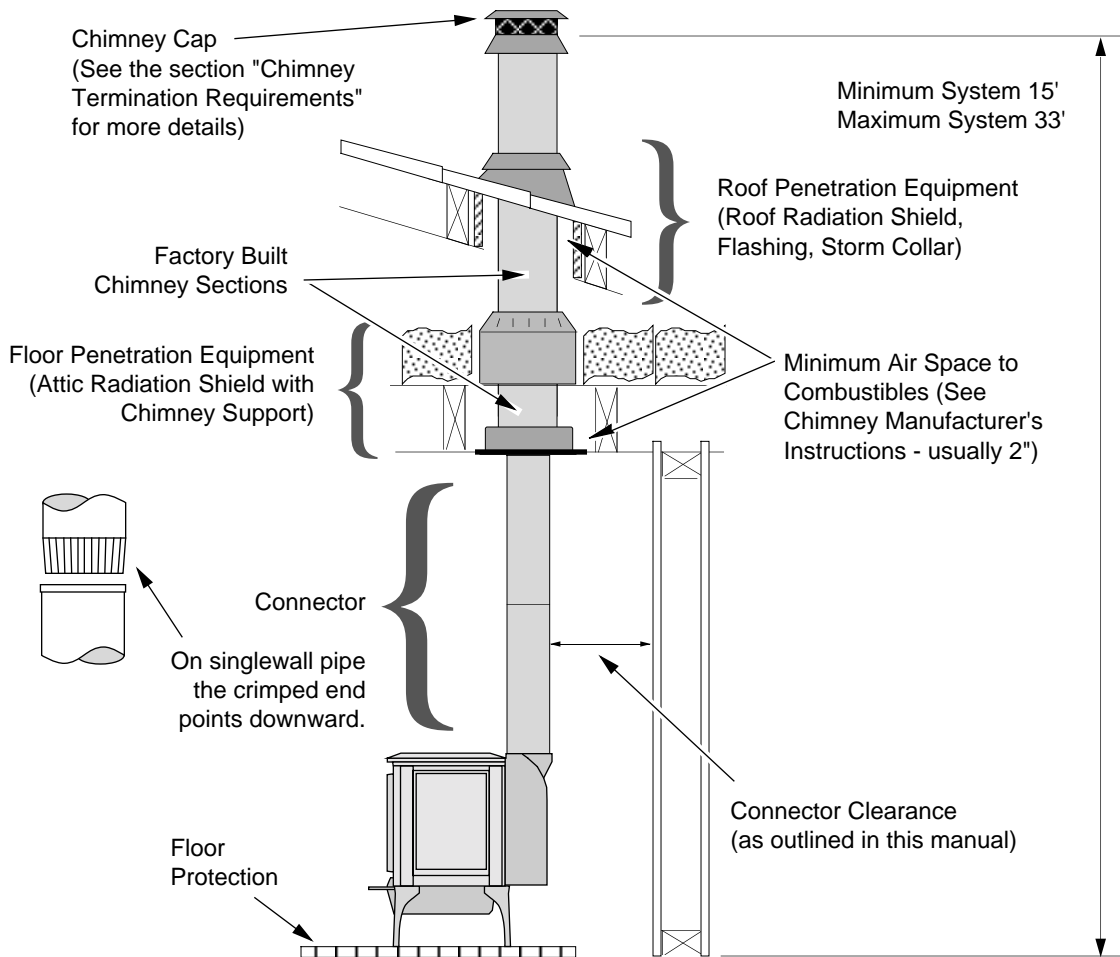
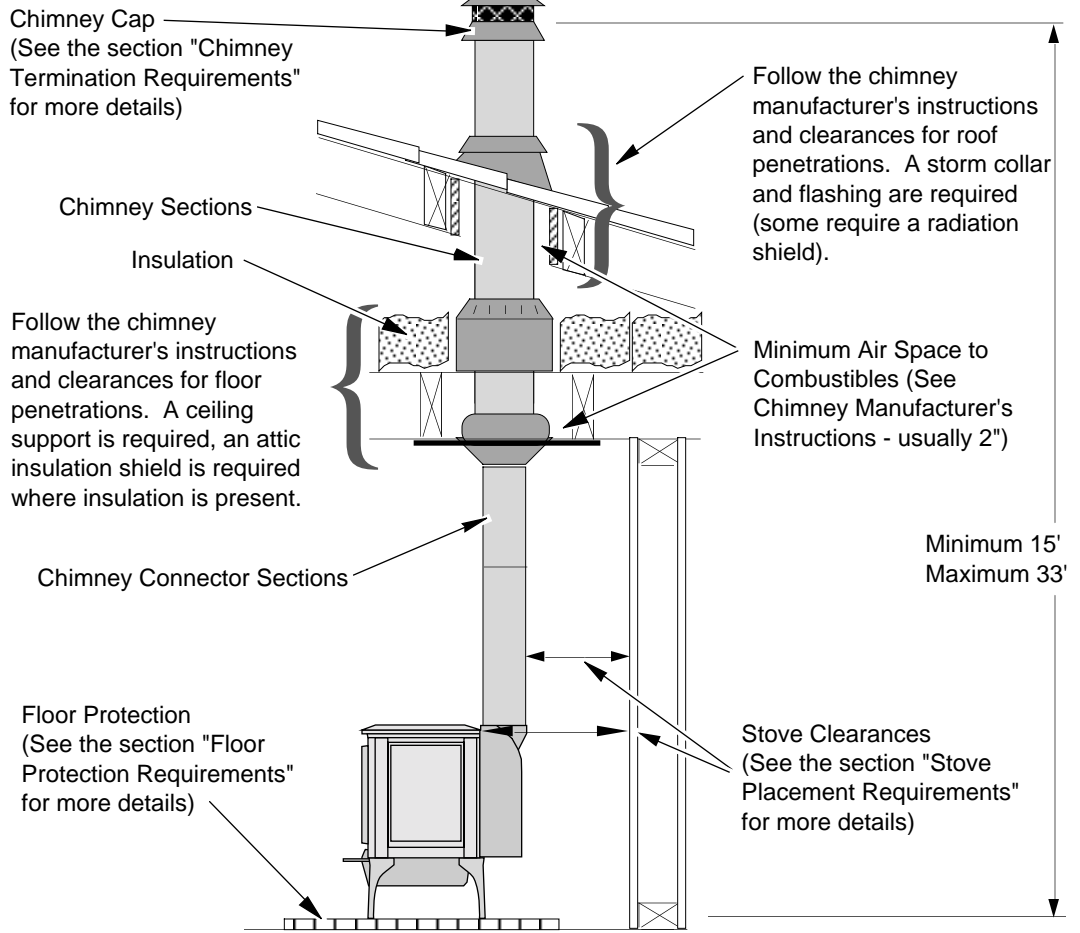

Figure 7
Figure 13
- Chimney connector is required from the flue collar of the stove to the factory-built chimney (see Figure 7) or masonry chimney (see Figures 13, 14, and 15).
- The chimney connector must be installed with the crimped end pointing downwards (see Figure 7). This prevents creosote from leaking to the exterior of the pipe.